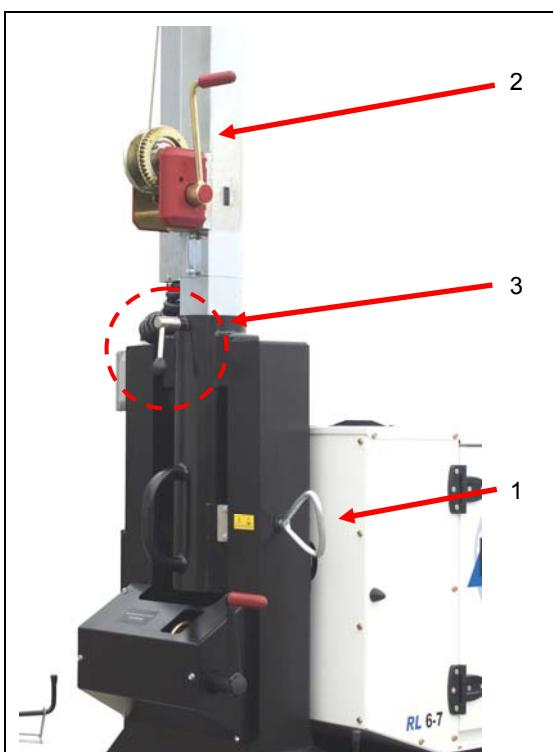

Figure 5.8 – Locking and raising the mast
- ➊ After reaching the desired vertical position, the lower stud ensures that the telescopic column is securely locked (fig. 5.8, ref. 1).
- ➋ Performing the second raising phase. Raise the column to the desired height using the hoist with automatic brake (fig. 5.8, ref. 2).
- ➌ The column can be oriented according to requirements. It can swivel through 330°, by unscrewing the pivot (fig. 5.8, ref. 3).